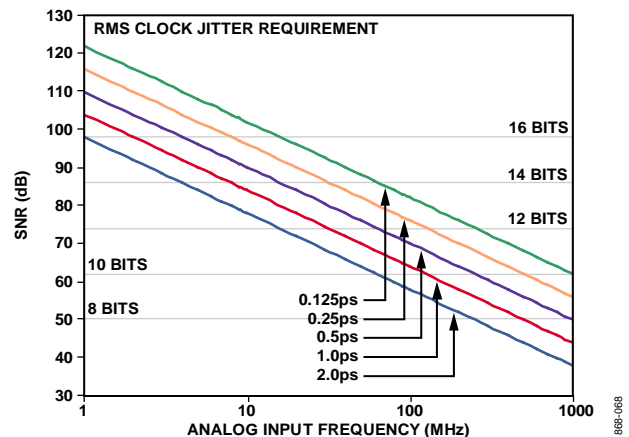

Figure 62. Ideal SNR vs. Analog Input Frequency and Jitter
In this equation, the rms aperture jitter represents the root sum square of all jitter sources, including the clock input, analog input signal, and ADC aperture jitter specifications. Intermediate frequency (IF) under-sampling applications are particularly sensitive to jitter (see Figure 62).